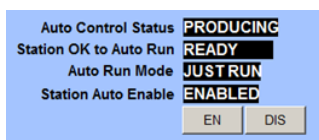

Figure 6 – Station Status Indicators
**Station Status & Control:** On the top-left, station status indicators provide overview information as the status of how the station is working as a whole. The station's automatic control status gives a quick Producing / Idle status in terms of if the site is producing water. The "Station OK to Auto Run" provides a status if all the station permissives have been met to allow the station to run automatically (noting that Permissives only refer to prerequisites for the station to able run, and not the core automatic control scheme). The "Auto Run Mode" provides information as to what type of automatic-control mode the station is using, whether it be "Just Run", "Tower Level Mode" or "Pressure Transmitter Mode". Lastly, the "Station Auto Enable" setting allows an operator to quickly Enable/Disable the station, by clicking the EN/DIS buttons and then answering "Yes" to a confirmation dialog box that comes up. This can be seen in Figure 6.